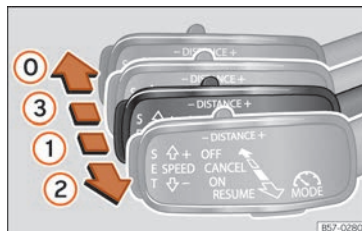
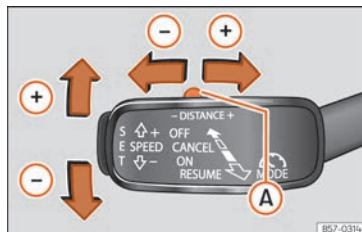

Fig. 238 On the left of the steering column: third lever for operating the Adaptive Cruise Control.
Fig. 239 On the left of the steering column: third lever for operating the Adaptive Cruise Control.
Once you are driving, if you wish to set the current speed as the vehicle's cruise speed and activate the ACC, press the **SET** »» Fig. 239 button. If you wish to increase or reduce speed by intervals of 1 km/h (0.6 mph), move the lever to position ② »» Fig. 238 or press the **SET** button, respectively.
To increase/reduce the distance level, press the rocker switch towards the left/right »» Fig. 239 A.
- To activate the ACC, with the third lever in position ① press the **SET** button or move the third lever of the ACC to position ② »» Fig. 238. At this point, the image of the
To disconnect the ACC move the lever to the ① position »» Fig. 238 (engaged). An **ACC deactivated** message appears and the function is totally deactivated.
If you do not wish to disconnect the ACC, just to switch it temporarily to inactive mode (Standby), move the third lever to position ③ »» Fig. 238 or press the brake pedal.